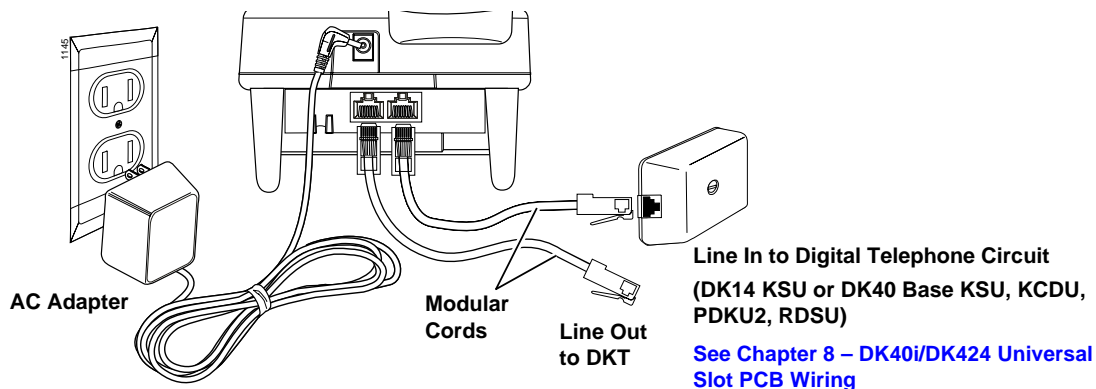

Figure 9-18 Cordless Telephone Connectors
1. Plug the AC adapter cord into the AC adapter input jack on the base unit (see Figure 9-18).